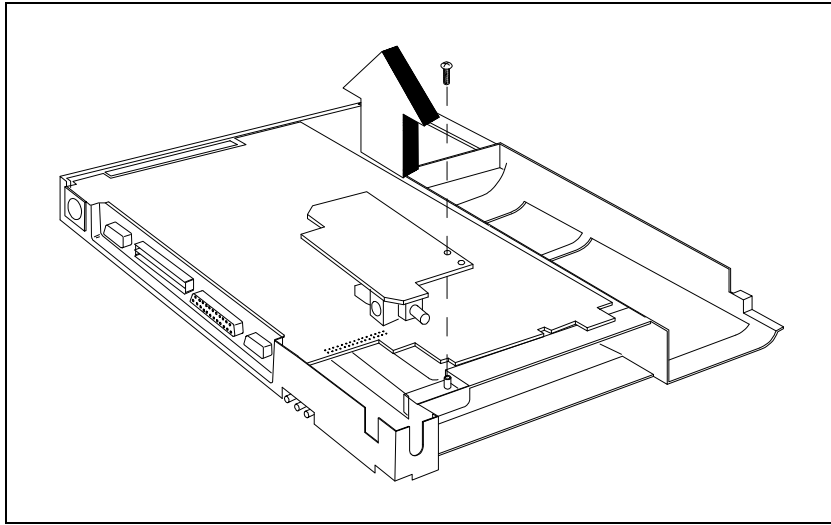

Figure 6-20 Removing/Replacing the Charger Board Assembly
3. Turn the unit over and remove the screw holding the Charger Board to the inside of the Frame Assembly (Figure 6-20). Remove the Charger Board.